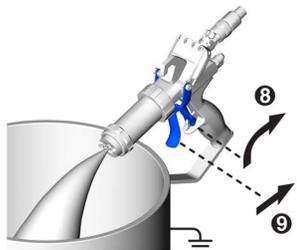

FIG. 21
- Disengage the trigger lock on the gun. See FIG. 21.
13. *Purge air from resin and catalyst hoses:* with a grounded bucket below the gun, press the gun against the side of the bucket and pull the trigger to dispense. Continue dispensing until air-free fluid is dispensed from both ports on the front of the gun. See FIG. 21. The pump air pressure may need to increase slightly until the material begins to flow.